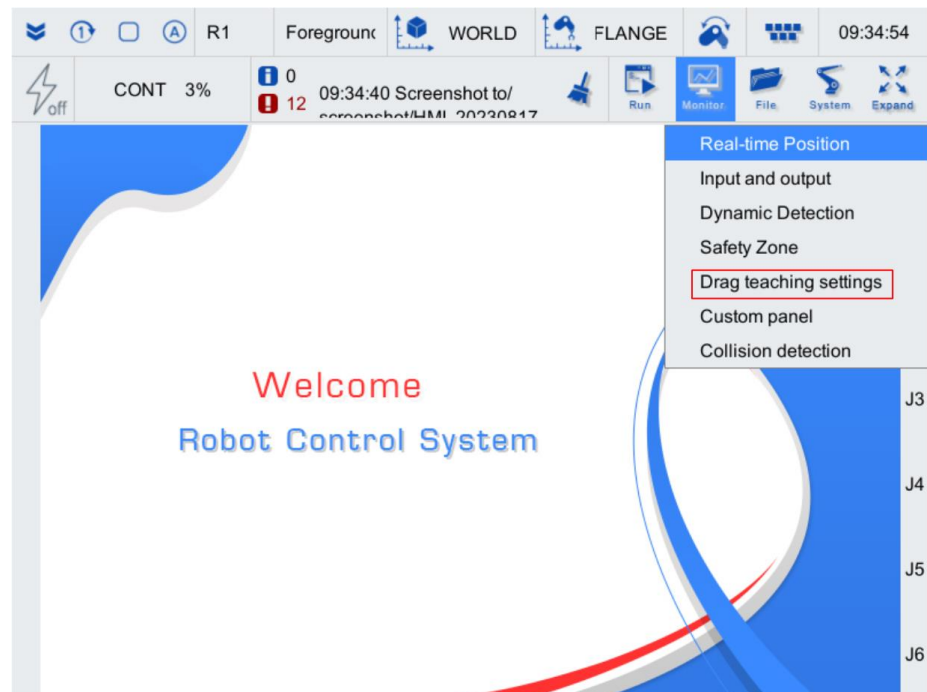

Figure 5-32 System related dropdown list
Step2. Click on the [Monitoring/Drag teaching settings] in the upper right corner menu area, as shown in Figure 5-32.